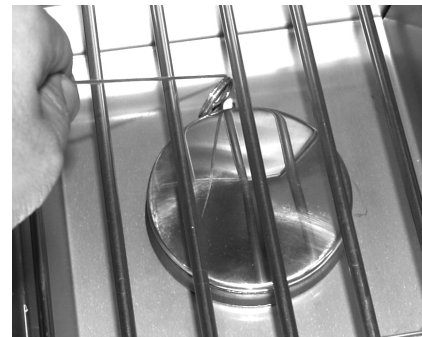

Fig. 29-2 Manual lighting
2. Insert either a burning long-barrel butane lighter, a burning long-stem match, or a burning match held by a wire extension holder through the cooking grid opening to the burner (Fig. 29-2). Hold the flame against the edge of the burner.
4. If the burner does not light within five (5) seconds of turning the control knob, **immediately depress the knob and turn the valve to OFF**. WAIT FIVE (5) MINUTES before repeating steps 2 through 4 of the MANUAL LIGHTING instructions.